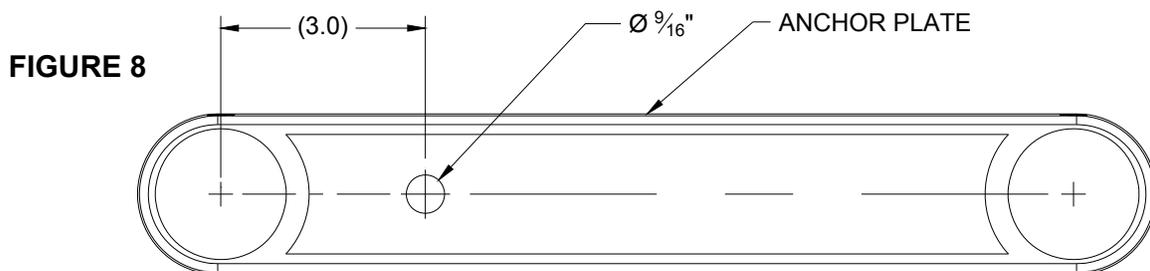

FIGURE 8
7. After anchors have been set in place, position the starting platform grab rail parallel and flush with the pool water wall. In order to properly locate and drill the hole in the **Anchor Plate**, place the starting platform with the edge of the **Anchor Plate** directly over the center of the **Anchor Body**. Make a mark on the side of the **Anchor Plate** directly adjacent to the center of the **Anchor Base**. Transfer this mark to the top and center of the **Anchor Plate**. (When installed, the slots on the heads of the **Filler Screws** may be rotated so they are perpendicular to the **Anchor Plate** and used to more accurately determine the center of the **Anchor Base**) Drill a 14mm diameter hole through the **Anchor Plate**. Repeat for the other side. See **FIGURE 8**.